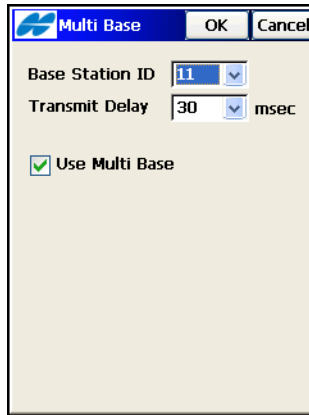

Figure 8-10. Multi Base
2. To set up **Base 1**, connect the controller to the receiver at Base 1. Tap **Survey ► Start Base**. The **Multi Base** screen displays (Figure 8-10 on page 8-11).
*Transmit Delay.* For example, select 11 as the Base Station ID and select 30 *msec* for the Transmit Delay (Figure 8-10).